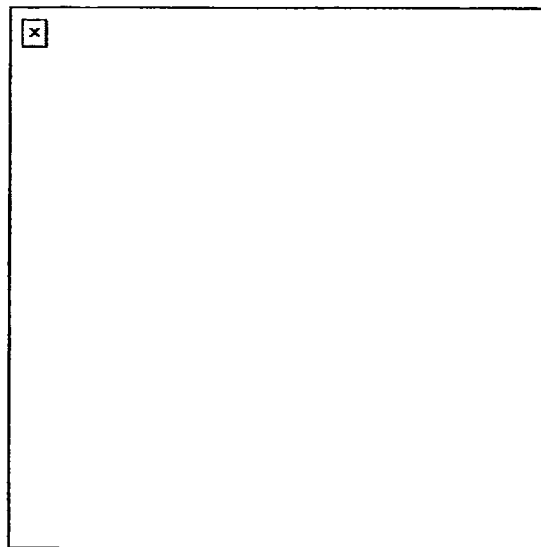

Figure 1. Observing around a corner.
- b. Expose the head slowly at ground level so that it appears to be a shadow. Expose the head only enough to observe around the corner (Figure 1).